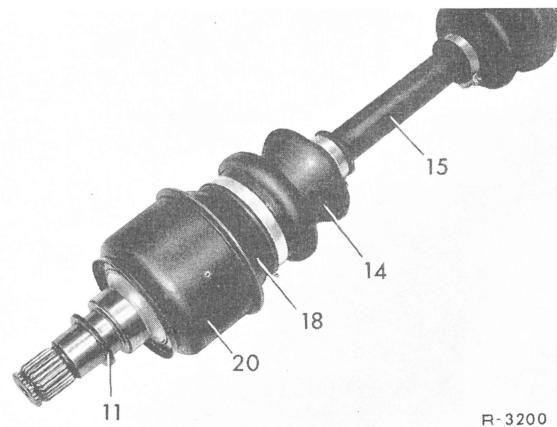

Fig. 4
- 5 Pull rear axle shaft from side gears and remove together with spacer rings (Fig. 4).